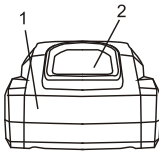
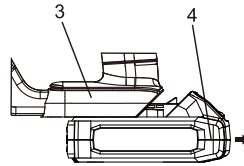

Fig. 4
Fig. 5
1. Remove the discharged battery pack (1) from the tool by pressing the battery release button (2) on the rear of the battery downward (Fig. 4) and pulling the battery pack out of the tool handle (3) (Fig. 5).